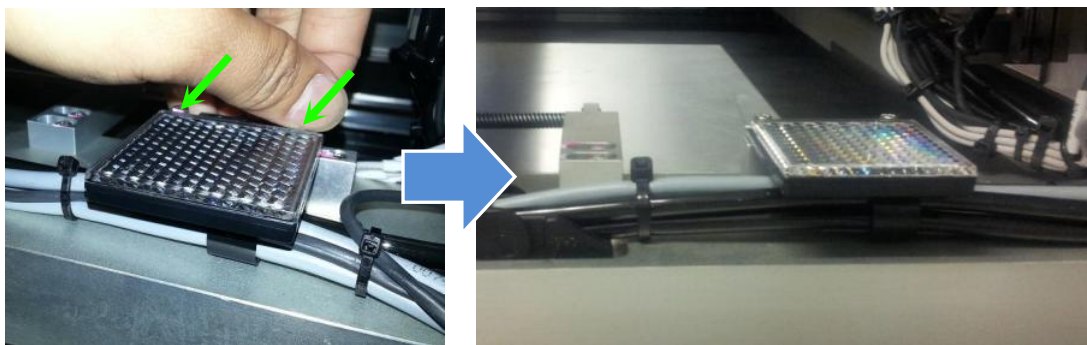

Figure 38 PCL Sensor Reflector Assembly
40. Assemble SENSOR, REFLECTOR, E39-R (P/N, 2284-0052) as below Figure 38